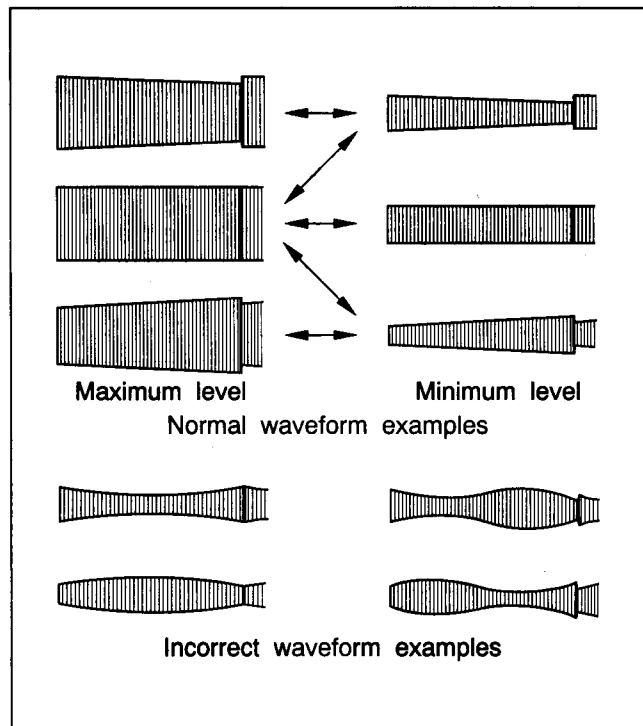

Fig. 2-7-1
- (1) Connect the oscilloscope to TP106(PB FM/COL) on the Main board.Use TP111(D.FF) on the Main board as a trigger.
- (2) Playback the SP stairstep portion of the alignment tape. Confirm that the FM waveform appears as indicated in Fig.2-7-1.
- (3) Set the manual tracking position by simultaneously pressing the CH "▲" and "▼" buttons.
- (4) Operate the tracking adjustment (press the CH buttons during playback) and set for maximum playback FM waveform.
- (5) By operating the CH button, vary the FM waveform from maximum to minimum and vice versa to confirm that the waveform varies nearly in a flat shape as shown in Fig.2-7-1.